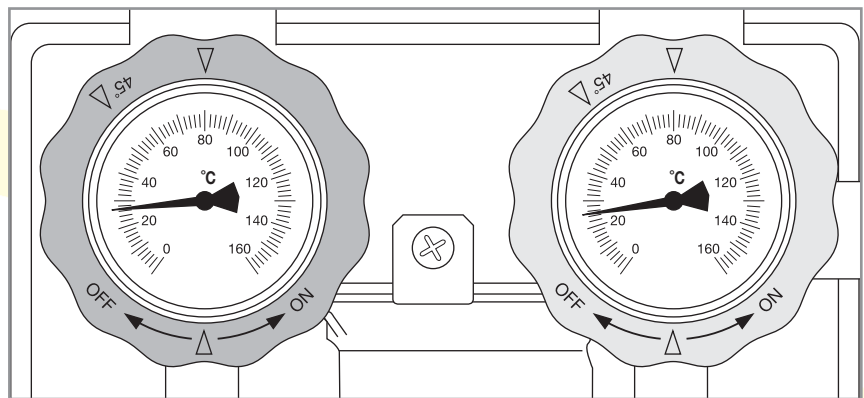

Figure 4-3: Flow and return valves open
To prevent ‘gravity’ circulation of solar fluid, gravity brakes must be in the operating position (closed), i.e. with ‘∇’ markers in vertical position. See Figure 4-3.
- Reset Flow and Return valves to fully open position. Refer to Figure 4-3 (page 11).
- Valves are closed – ensure that Flow, Return and Filling/Shut off valves are all fully open. Refer to Fig 4-3 on page 11.